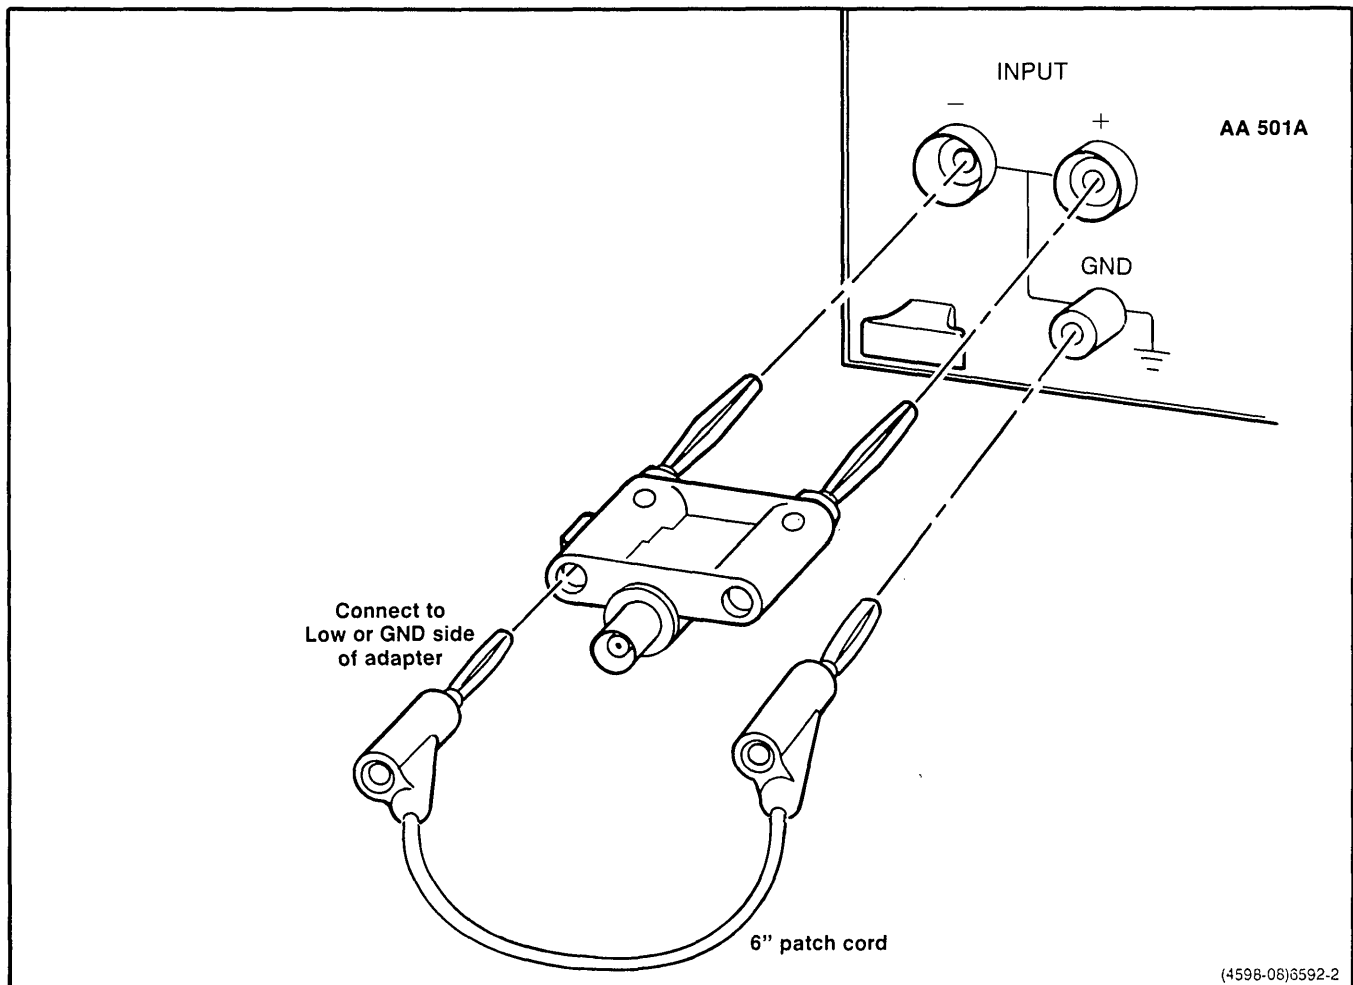

Fig. 4-1. AA 501A grounded unbalanced input connection.
a. Connect the ac voltage calibrator to the input terminals of the AA 501A. Also connect a patch cord from the low or grounded side of the banana plug adapter to the ground terminal of the AA 501A so that it grounds out the -Input. Refer to Fig. 4-1.
a. Connect an ac calibrator to the AA 501A INPUT. Also connect a patch cord from the low side of the banana plug adapter to the ground terminal referring to Fig. 4-1 (same setup as in step 1).
a. Connect an ac calibrator to the AA 501A as shown in step 3 (referring to Fig. 4-1).